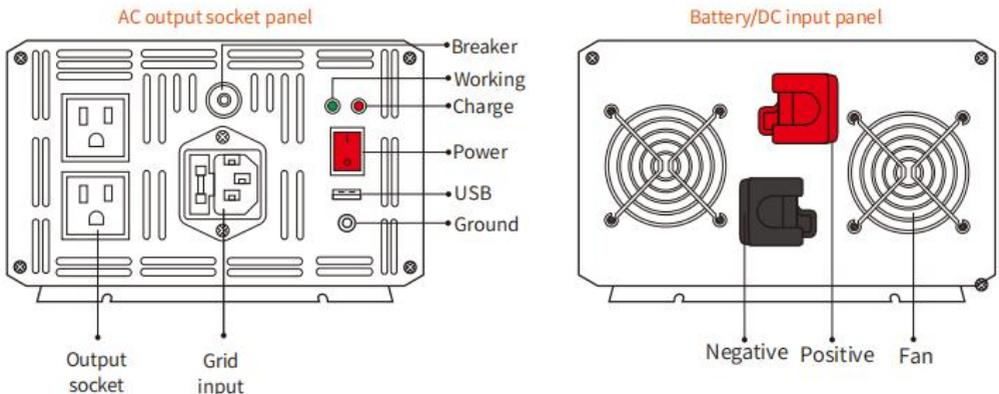

Figure 2
- Panel schematic.(See Figure 2)